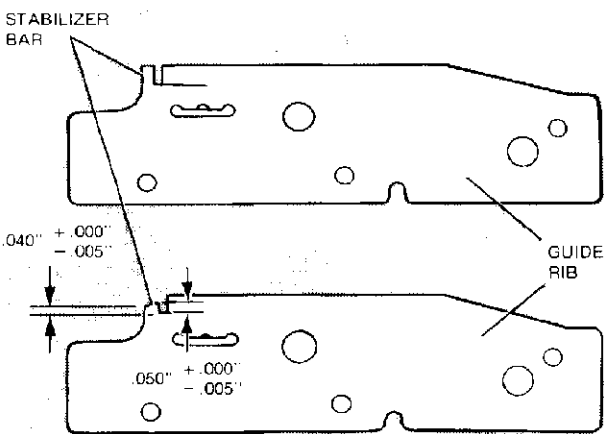

Figure 4
- (g) File the stabilizer bar on the guide rib to the dimensions shown in Figure 4.